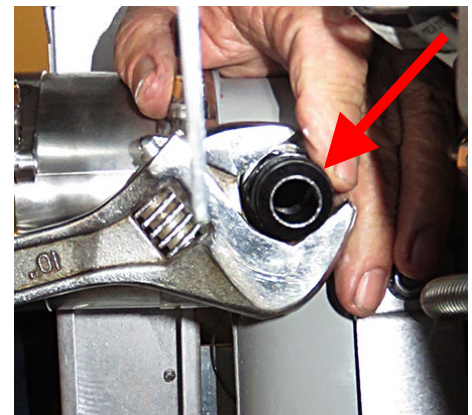

Figure 38
42. Insert flexline adaptor 8101068 into the port in the rear of the drain tube and tighten (see Figure 38).